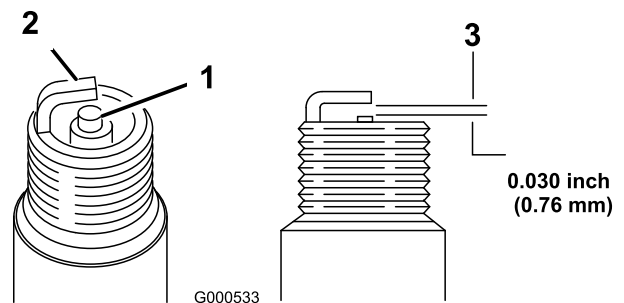

Figure 26
11. Set the gap on the plug to 0.76 mm (0.030 inch) as shown in Figure 26.